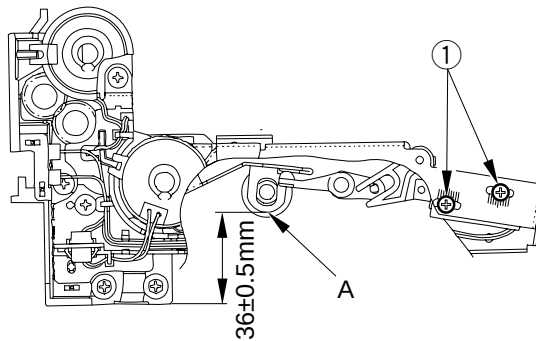

Figure 5-845
As shown in Figure 5-845, adjust the position of the solenoid so that the distance from the bottom of the pick-up assembly and the section A of the roller arm is 36 ± 0.5 mm. (Use two screws ①.)